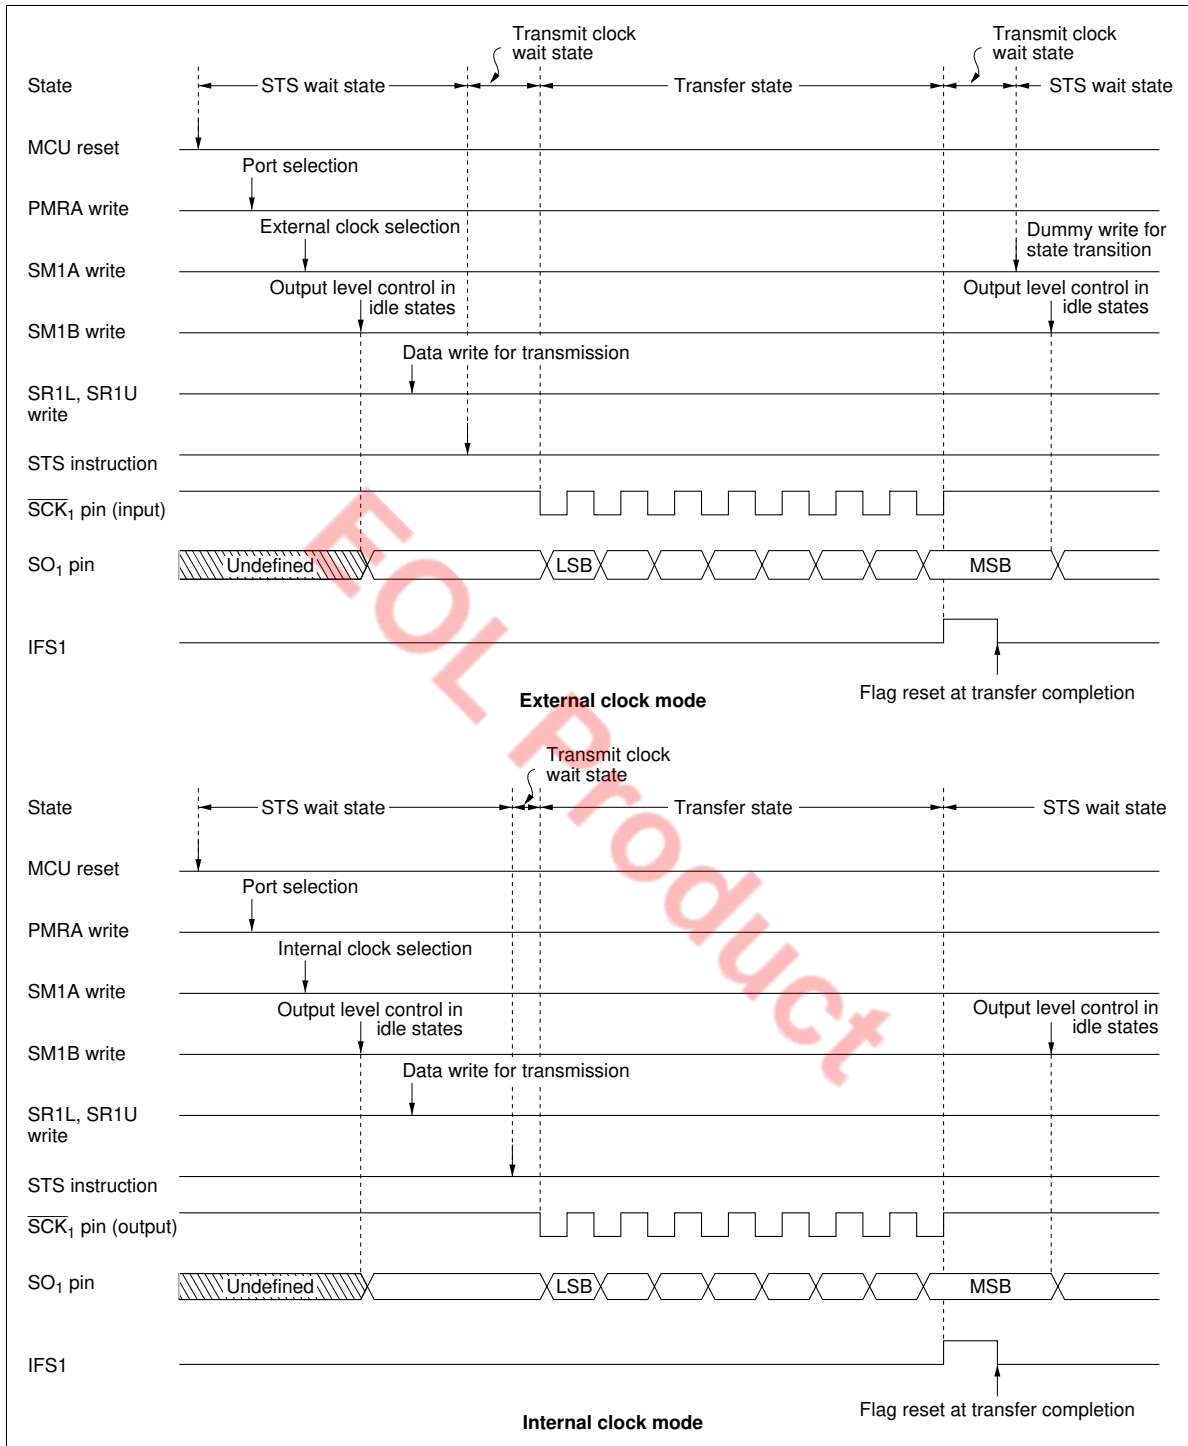

Figure 51 Example of Serial Interface 1 Operation Sequence
**Output Level Control in Idle States:** When serial interface 1 is in STS instruction wait state, the output of serial output pin,  $SO_1$  can be controlled by setting bit 1 (SM1B1) of serial mode register 1B (SM1B: \$028) to 0 or 1. The output level control example of serial interface 1 is shown in Figure 51. Note that the output level cannot be controlled in transfer state.